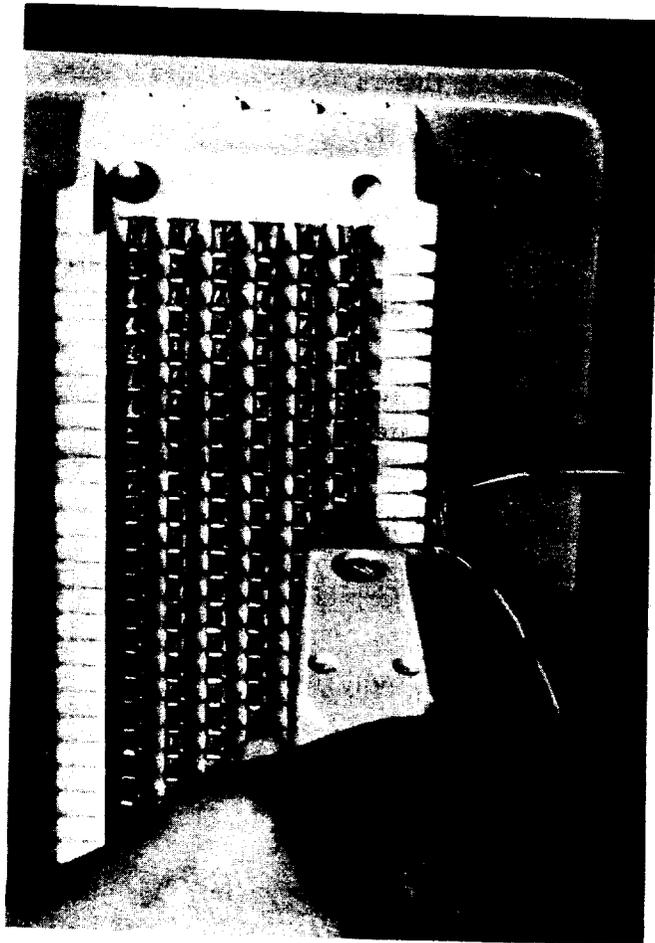

Fig. 5—Terminating or Looping Wire on 66-Type
3.01 To make an ended termination using the B impact tool (MD), observe the following procedure (Fig. 5):
3.02 To make a looping termination on a 66-type connecting block, perform the following steps (Fig. 5):